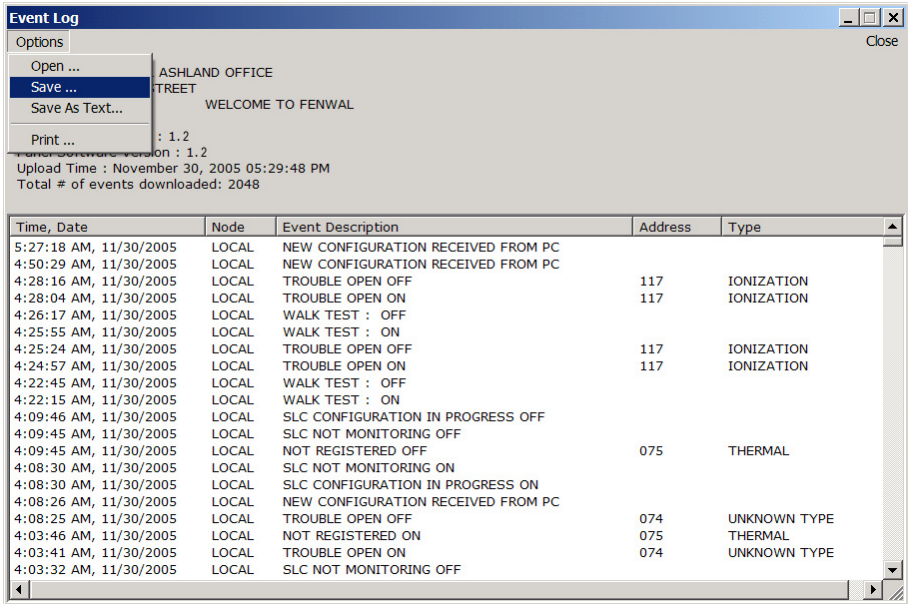

Figure 4-29. Event Log
7. Select **<OK>**. In response, the event log (Figure 4-29) is displayed. Within the Event log, there are four menu options: Open, Save, Save As and Print.